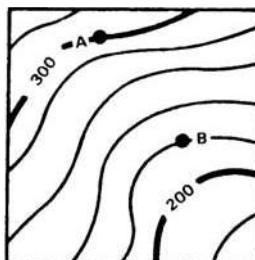

Figure 071-329-1004-2. Contour intervals
- c. Widely spaced contour lines show a gentle slope. Close lines indicate a steep slope (figure 071-329-1004-3).